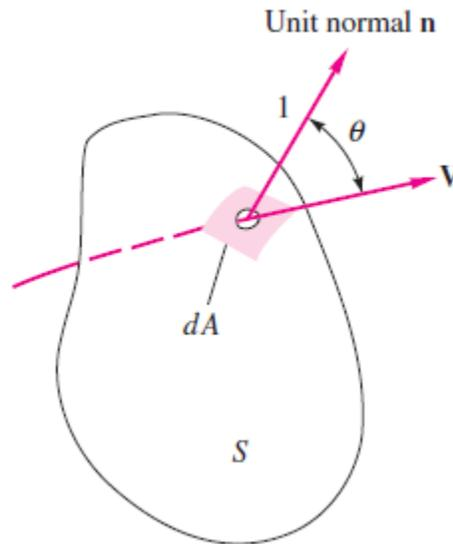

Fig. 1: Elemental area on control surface representation
- Take a small elemental area ΔA on the control surface of the volume. The outward normal of the elemental area is \hat{n} as shown in Fig. 1